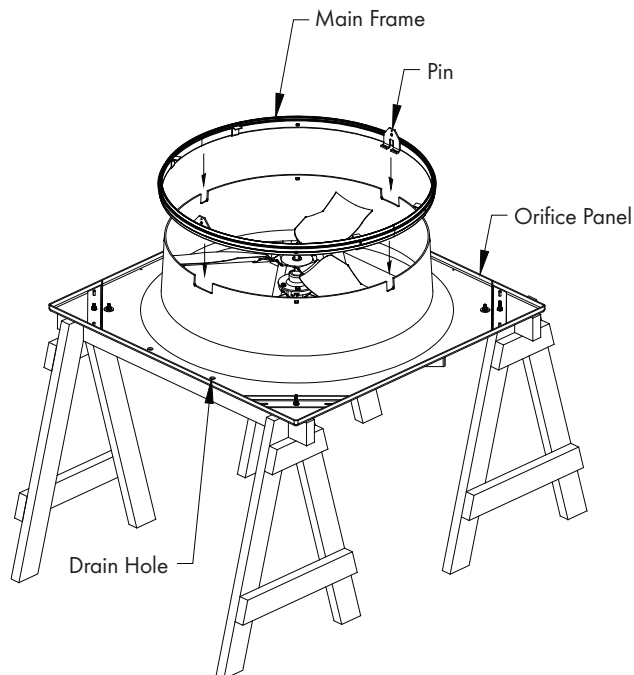
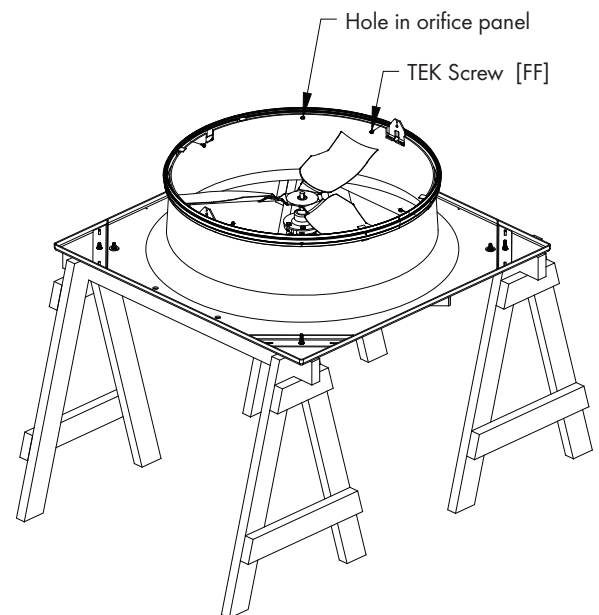

Figure 8A
Figure 8B
See Figure 8A. Line up 4 holes in Main Frame with holes in the Orifice and fasten using (4) TEK Screws [FF]. See Figure 8B.